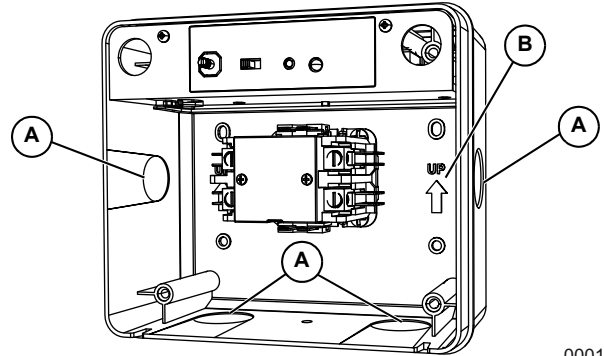

Figure 3-1. Knockouts and UP Arrows
3. Use a flat head screwdriver to remove appropriate knockouts from module enclosure for wiring. See A in Figure 3-1.
4. Hold SMM enclosure against mounting surface with arrows pointing up, and mark or drill four mounting holes. See B in Figure 3-1 for arrows.